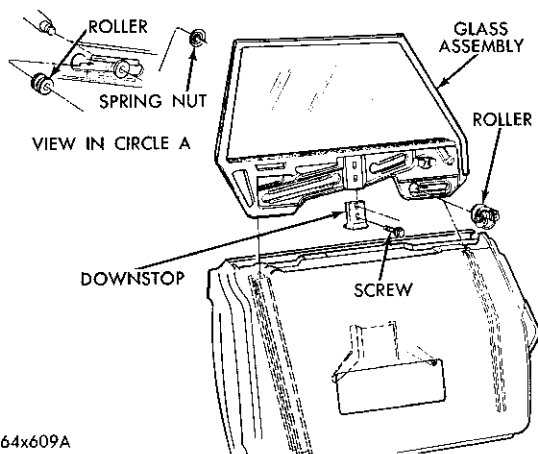

Fig. 92—Rear Door Glass Replacement (Imperial)
(1) Remove the inside handles, remote door lock lever, arm rest (if so equipped), the trim panel and watershield.
(2) Run the door glass to the down position and remove the regulator arm stud nuts (Fig. 92).
(3) Disengage the regulator arms from the glass lower channel.
(4) Remove the glass stops and raise the glass and channel up out of the door frame.